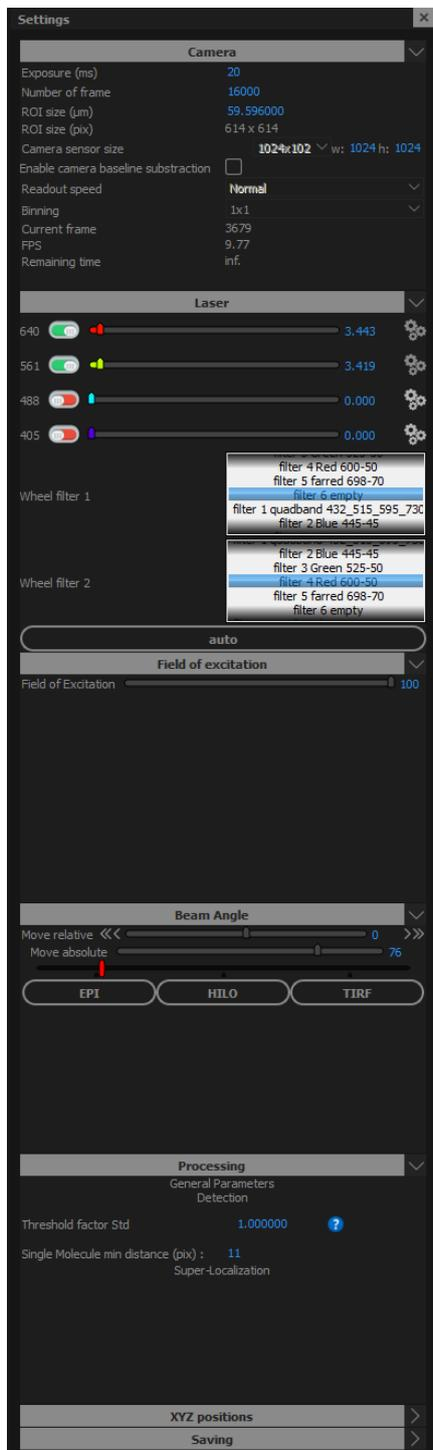

Figure 12: Setting the acquisition parameters.
8. Set the camera parameters. To enable 20-ms exposure times, use a camera sensor size of 1024 x 1024 pixels, or smaller (Fig. 12).